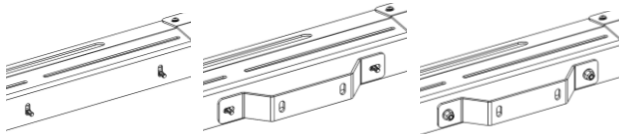

Figure 2: Assembly of Mounting Brackets
4. The separately provided mounting brackets can be installed onto the side rail assembly using the 1/4"-20 x 5/8" carriage bolts, nuts, and 5/8" OD washers as shown in Figure 2. No additional mounting brackets have been provided in this kit; however new hardware has been provided for the front mount location of the touring style side rails for replacement purposes.